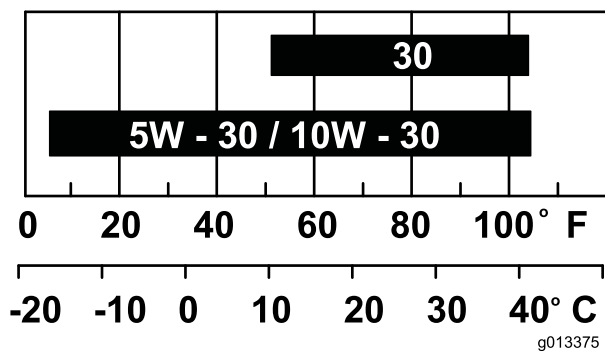

Figure 28
**Note:** Use SAE 10W-30 for general use. You can use the other viscosities shown in the chart when the average temperature in your area is within the indicated range (Figure 28).